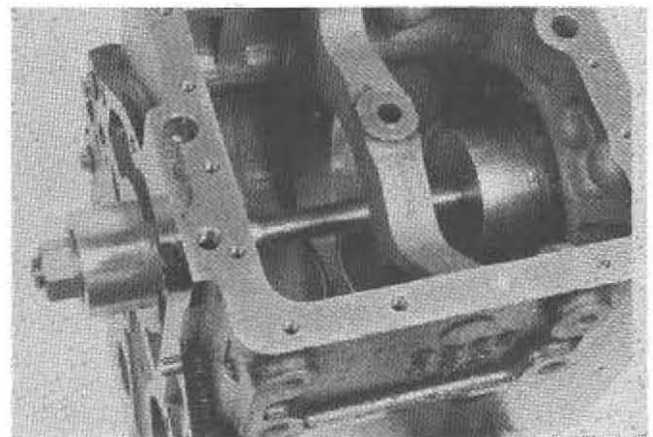
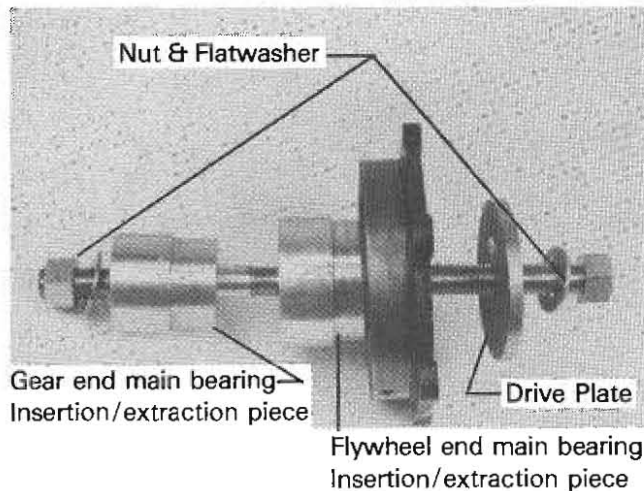

Fig. 3-13 Insertion and Extraction Tool Assembled in Block for Gear end Main Bearing Removal
Fig. 3-14 Proper Arrangement of Insertion & Extraction Tool Pieces for Gear End Main Bearing Removal
7. To remove the gear end (front) main bearing from cylinder block, assemble special insertion/extraction tool in the cylinder block as shown in Fig. 3-13. Refer to Fig. 3-14 to see clearly the position and relationship of the pieces assembled in the block in Fig. 3-13.